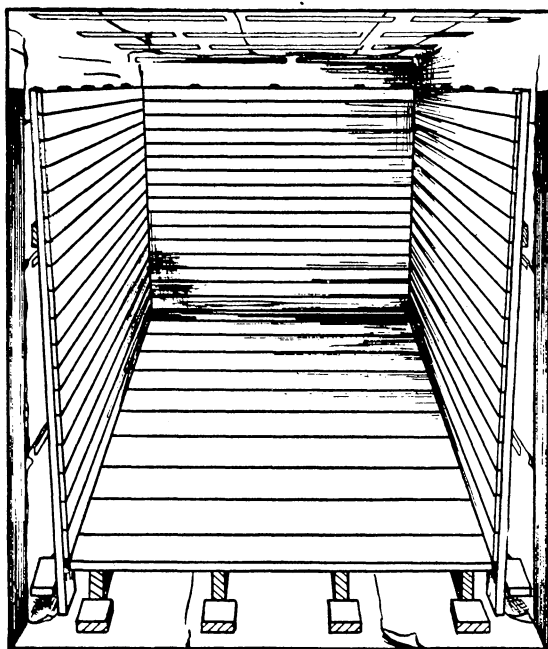

FIG. 10.—First layer of false side wall boards.
11. Nail 15-foot lengths of the 1-inch boards to the false side wall studding. (Fig. 10.) These boards should form a solid, tight, false wall from the false floor to the top of the studding.